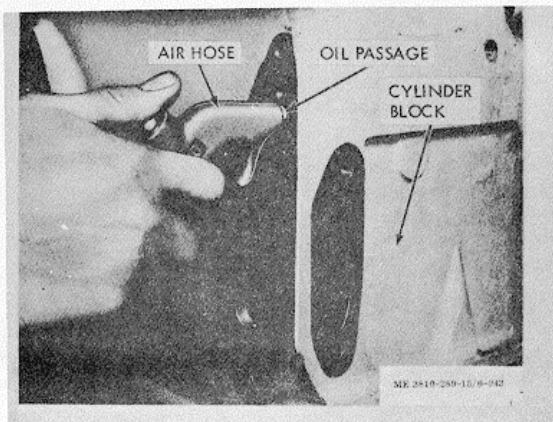

Figure 3-234. Cleaning block oil passages.
(1) Clean block in approved solvent and dry thoroughly.
(2) Clean all gasket residue from mating surfaces.
(3) Clean all corrosion and scale from water jacket and ports.
(4) Run rods with brushes or swabs through all oil passages. Blow out passages with air (fig. 3-234).
(5) Replace all pipe plugs. Use sealing tape or lead sealer, on plugs to prevent leakage. Tighten plugs to values listed in table 2-2.